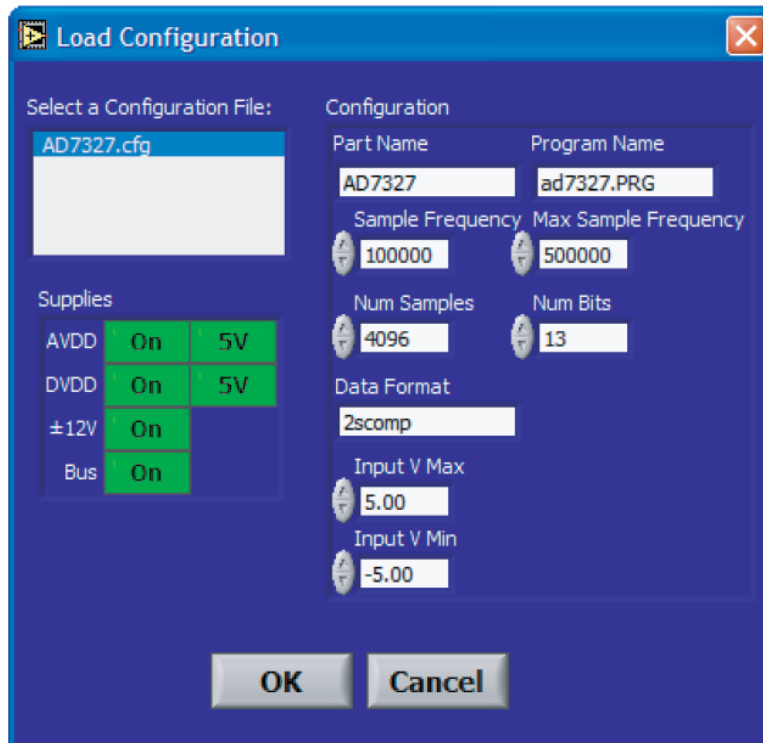

Figure 4. AD7327 Evaluation Software, Load Configuration Dialog Box
- Click **Device Select** to open the **Load Configuration** dialog box (see Figure 4) and to load a configuration file.
The **Load Configuration** dialog box allows users to load the required configuration file for the evaluation board (see Figure 4). The configuration file gives the software detailed information about the AD7327 evaluation board, and the part connected to the EVAL-CONTROL-BRD2, such as the number of bits (**Num Bits**), the maximum sampling rate (**Max Sample Frequency**), the output coding, and the power supply requirements. The configuration file also tells the software the names of the DSP program file that it should download to the EVAL-CONTROL-BRD2. The **Load Configuration** dialog box also allows the user to choose the sampling frequency (**Sample Frequency**) and the number of samples (**Num Samples**) to take.
When running the software, click the **Device Select** button. This displays the **Load Configuration** dialog box (as shown in Figure 4). The **Select a Configuration File:** list located on the top left of the **Load Configuration** dialog box lists the available configuration files. The configuration files are text-based files that contain information about the particular evaluation board to be tested. The file covers the **Part Name**, number of samples (**Num Samples**) to be taken, number of bits (**Num Bits**), default and maximum sampling frequency (**Sample Frequency** and **Max Sample Frequency**), power supply settings (**Input V Max** and **Input V Min**), and **Data Format**. The configuration file also contains the names of the DSP code *.prg that is to be downloaded to the EVAL-CONTROL-BRD2. The user should select the relevant configuration file and click **OK**. The EVAL-CONTROL-BRD2 is reset, and the DSP program is downloaded. When the download is completed, the power supply settings indicated in the configuration file are set, and the user may hear some of the relays clicking. The selection windows (for example, **Num Samples** and **Sample Frequency**) is set to the default values specified by the configuration file. However, the user is free to change these at will.